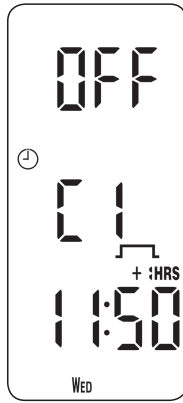

Fig. 31
2.3.2 Extend the current set time by 1, 2 or 3 hours (Fig. 31).